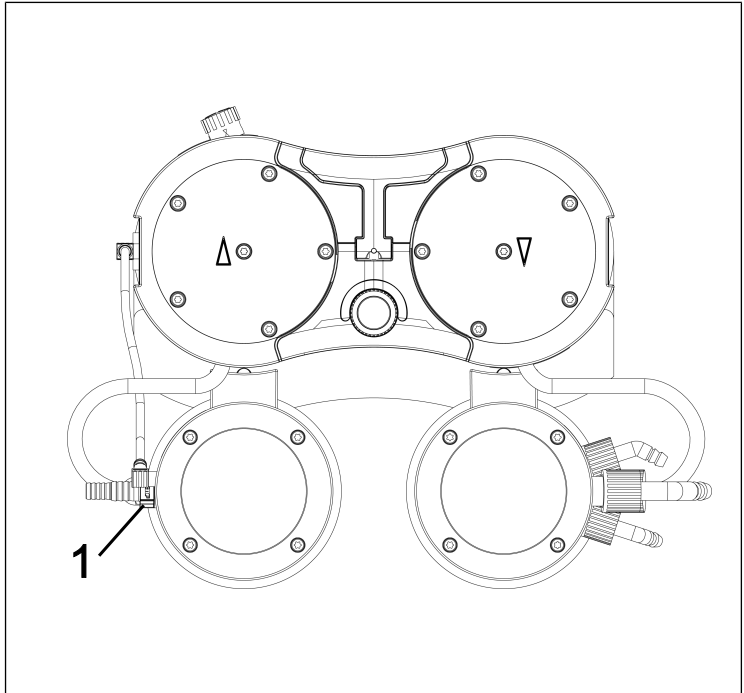

Fig.24: Loosen hose connection
3. Loosen the union screw of the hose connection (**1**/Fig. 24) from the vacuum system component.
i If necessary, use a size 14 open-end wrench to loosen the union screw of the separator hose connection (**1**/Fig. 24).
10. Screw in the union screw of the separator hose connection (**1**/Fig. 24) on the separator connection as far as it will go.
- i** If necessary, use a size 14 open-end wrench to tighten the union screw of the separator hose connection (**1**/Fig. 24)